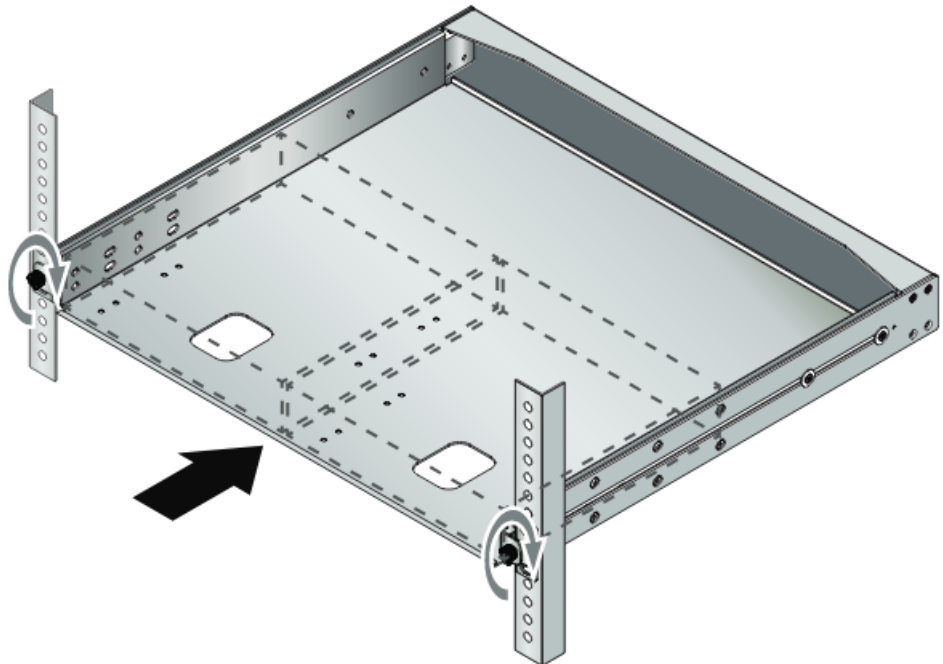

Figure 25. Securing the AT-RKMT-J15 Tray in an Equipment Rack
6. Slide the tray back to its original position and turning the tray fixing screws on clockwise as shown in Figure 25.